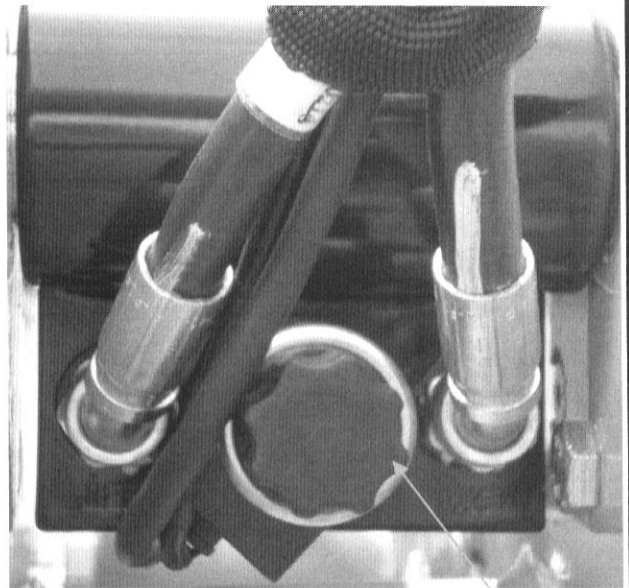

Figure 5-7. Cylinder Valve Removal
- Remove the valve solenoid by unscrewing the cap, sliding the coil off, then unscrewing the valve. Refer to Figure 5-7.